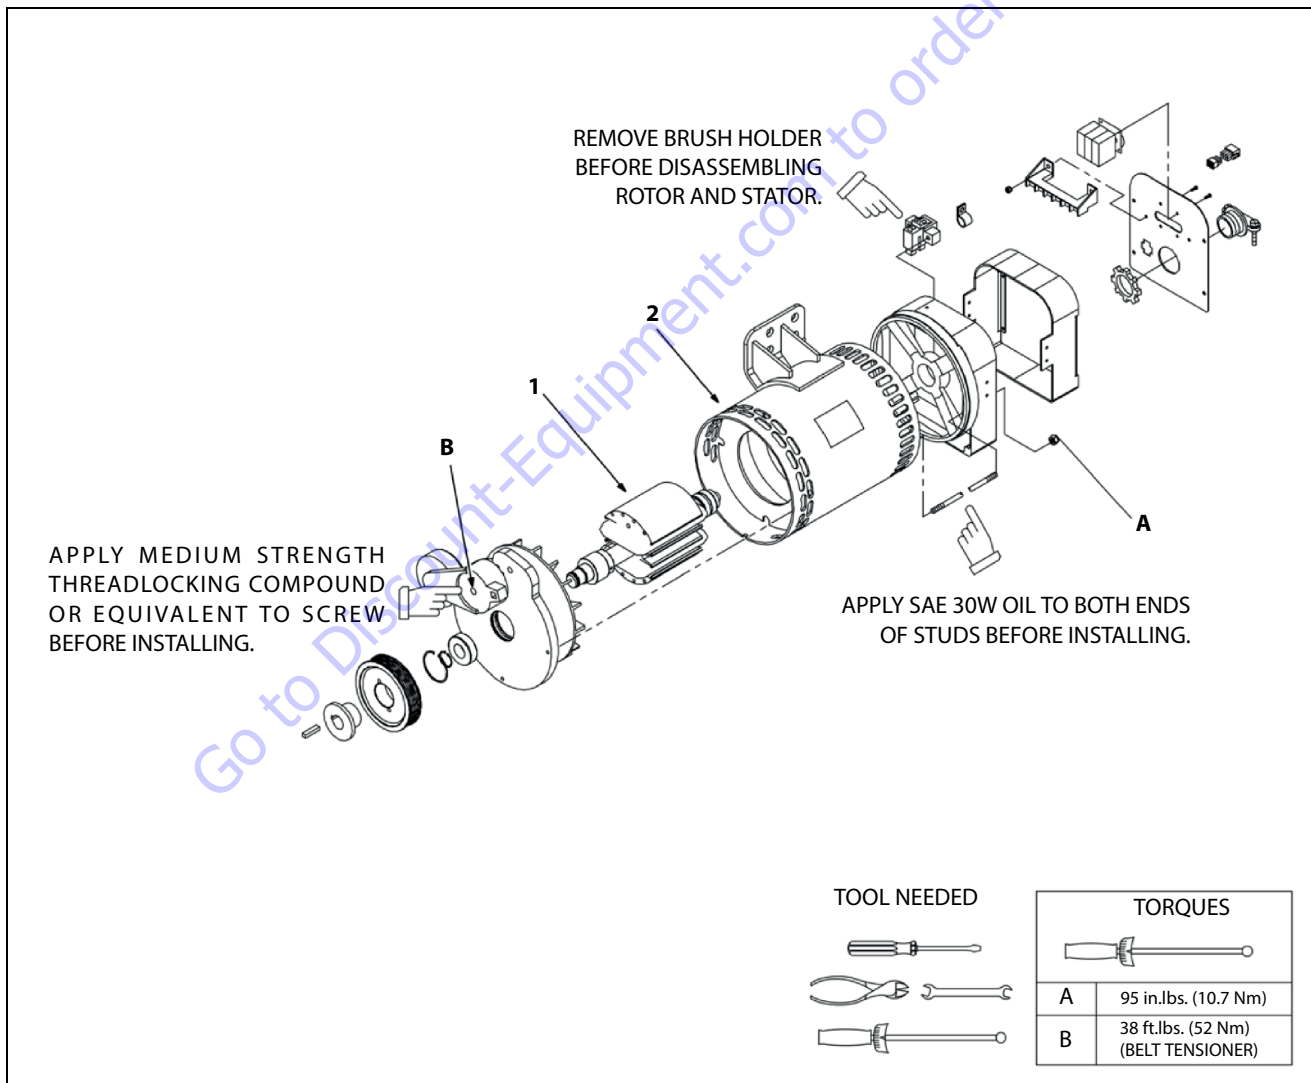

Figure 3-59. Generator Disassembly and Assembly
3. Disassemble generator parts shown in Figure 3-59.